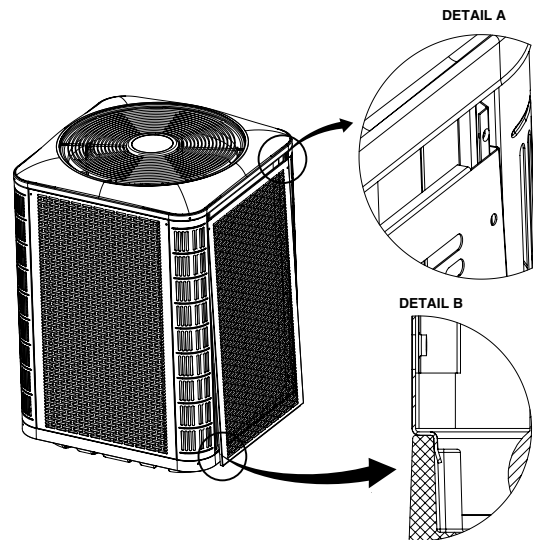

Figure 5. Panel Installation
1. Insert the top corners of side panel flanges into the corner post channels as shown in Detail A in Figure 5, \(page 8\).